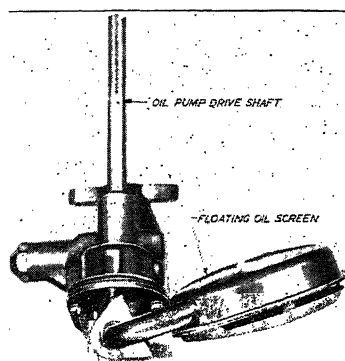

Fig. 3. Buick Floating Oil Screen
**Floating Oil Screen.** In order to have only fresh oil picked up by the pump, a floating screen, illustrated in Fig. 3, is used. The screen is attached to the lower face of the sheet metal dome with a sealed air compartment. The inlet pipe leading to the oil pump acts as a bearing, about which this dome is free to pivot so that it will float at the top of the oil, but not so high as to pick up any foam which might be on the oil. The floating screen thus prevents picking up sediment which naturally settles to the bottom of the sump. A safety device is incorporated which allows the oil screen to collapse in case it becomes clogged with abnormally thick oil or sludge. In this case the collapsing of the screen at its center opens a valve which allows oil to be drawn to the pump inlet.